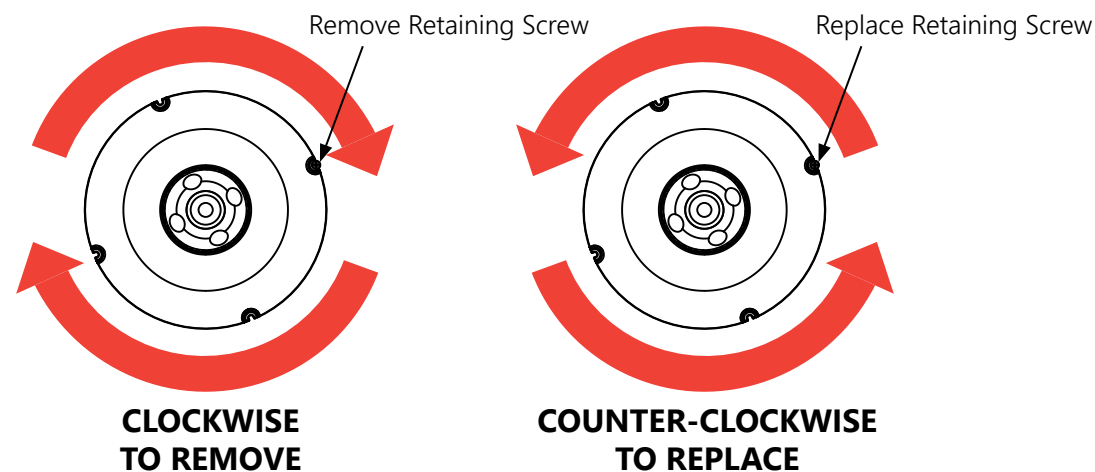

FIGURE 2: LED MODULE INSTALLATION
Each unit is carefully packed at the factory and comes with a construction debris cover that prevents most construction contamination prior to operation. Remove the light module from the body by first removing the LED Module Restraining Screw, and then turn the light module **CLOCKWISE** to remove (Figure 2). Install the debris cover. Put the light module in a safe place until ready for final installation.
C.1.5 After the system has been started, adjust the height of the water using this valve to get the desired effect. The following tables (FIGURE 2) provides approximate values for water column height with combinations of GPM and depth of the Brilliant Wonders Lighted Bubbler mounted in the horizontal position.